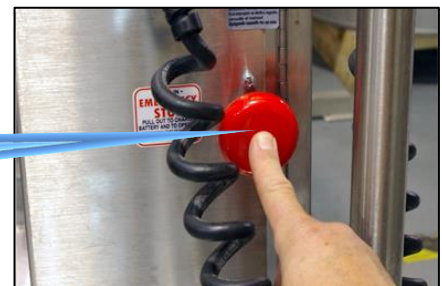

Figure 65
2. Push in the red emergency Stop (E-Stop) button (Figure 65).